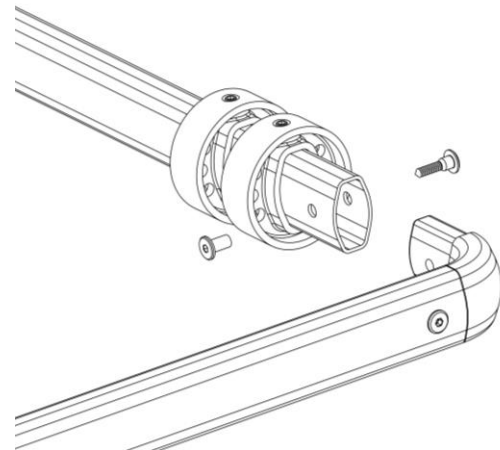

Fig. 24
9. Slide the pair of tarp flanges onto the rear bar and then connect the side arms by bolting the rear bar to the exposed ends of the 90° corners (see Fig. 24.)